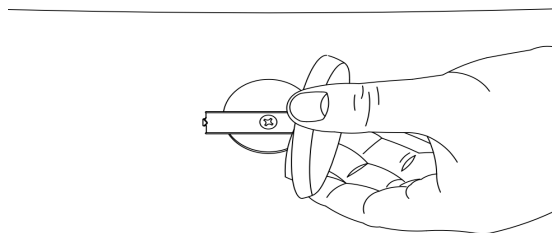

FIGURE 5
3. Install the overflow cover onto the bar and lock it in. See Figures 5 and 6.